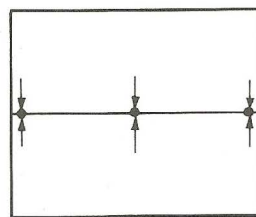

Fig. 1
1. Match the points of vertical convergence as shown in Fig. 1.